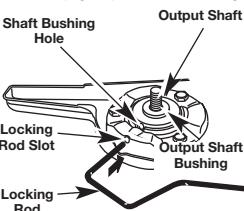

Fig. 8
- Align the shaft bushing hole with the locking rod slot and insert the locking rod into the shaft bushing hole (Fig. 8).
- Align the shaft bushing hole with the locking rod slot and insert the locking rod into the bushing hole (Fig. 8).
- Align the shaft bushing hole with the locking rod slot and insert the locking rod into the shaft bushing hole (Fig. 8). Place the blade retainer on the output shaft with the flat surface against the output shaft bushing (Fig. 15). Screw the cutting attachment counterclockwise onto the output shaft. Tighten securely.